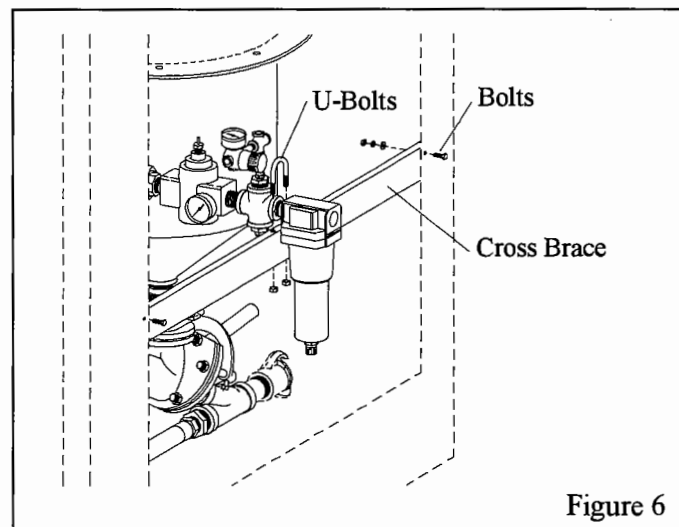

Figure 6
3.9 Remove the U bolt and two mounting bracket bolts securing the cross brace per Figure 6, and temporarily remove the cross brace.